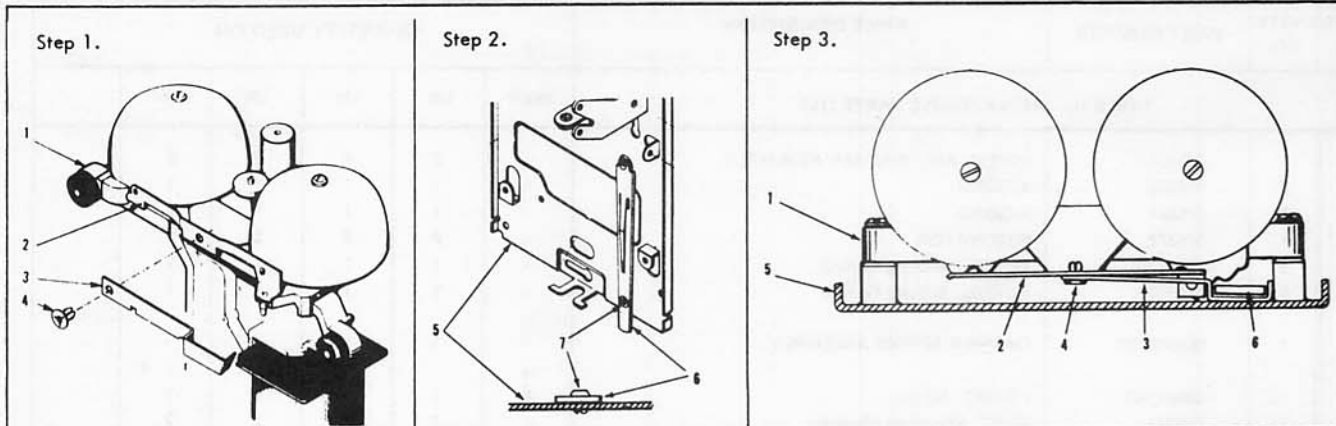

Figure 3. Installation of frequency selective ringer with volume control in 500 type wall telephone. (Paragraph 3.4)
##### a. OLD STYLE VOLUME CONTROL (Fig. 3)
1. Attach link (3) to the damper spring (2) with the stud (4). (These items are packed with ringer.)
2. Unlock the volume control arm (6) from the base (5) by removing stud (7). (Phones of current manufacture do not have this stud.)
3. Install ringer in telephone with the volume control arm (6) cradled in the link as shown in step 3, figure 3.
Move the damper spring to full off position. Do not attach link (3, figure 3). Volume control arm will be ineffective.